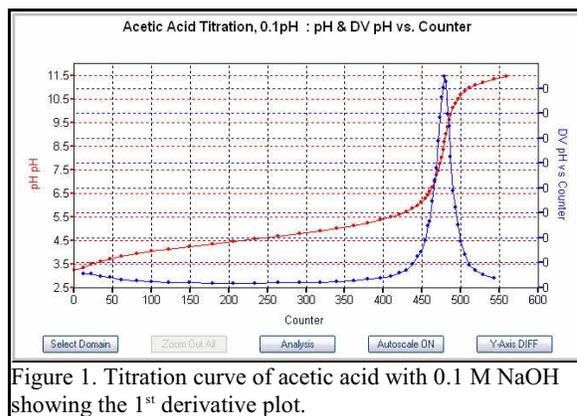

Figure 1. Titration curve of acetic acid with 0.1 M NaOH showing the 1st derivative plot.
1. Arrange six (6) small pieces each of marble chip, zinc, and iron wire in the 24 well plate as indicated in Figure 1.
2. Add 1 dropper of 6 M HCL, 1 dropper of 6 M H2SO4, and 1 dropper of 0.6 M H2SO4 to each of the first three samples of marble, zinc and iron wire as indicated in Figure 1.
5. Add 1 dropper of 6 M NaOH, 1 dropper of sat'd Ca(OH)2, and 1 dropper of 0.1 M Na(OH) to each of the last three samples of marble, zinc and iron wire as indicated in Figure 1.